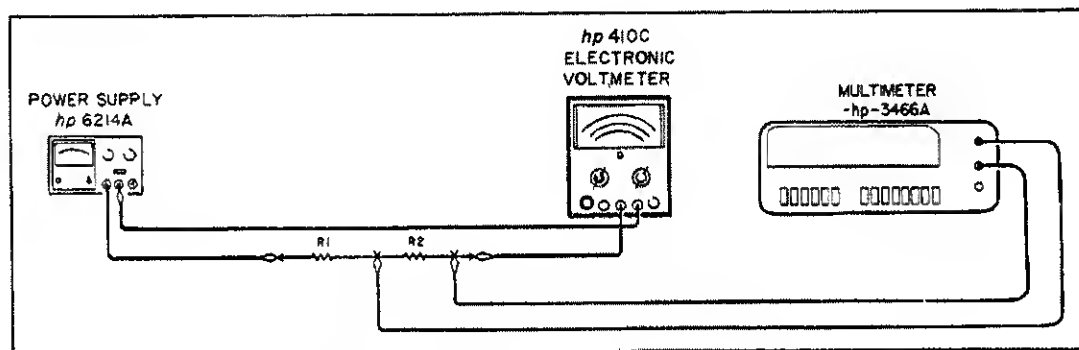

Figure 5-1. DC Ammeter Operation.
a. Figure 5-1 describes the test arrangement required for this operation.
b. Connect the Model 410C as shown in Figure 5-1; FUNCTION SELECTOR to + DCA; RANGE to 150 mA.